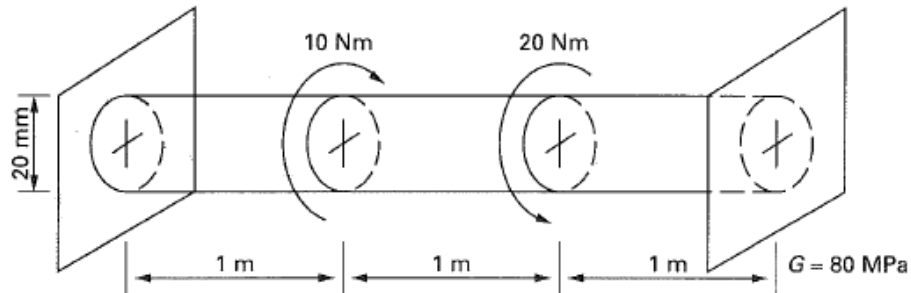

Figure P1.9
9. Derive the finite element equations for a torsion element and analyze the shaft shown in **Figure P1.9**.